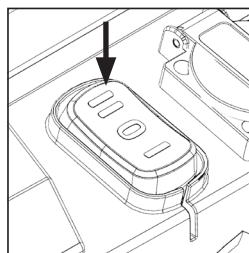

FIG. 2
- Now switch the rocker switch to setting II - Vacuum cleaner is in the standby mode. **(Fig. 2)**